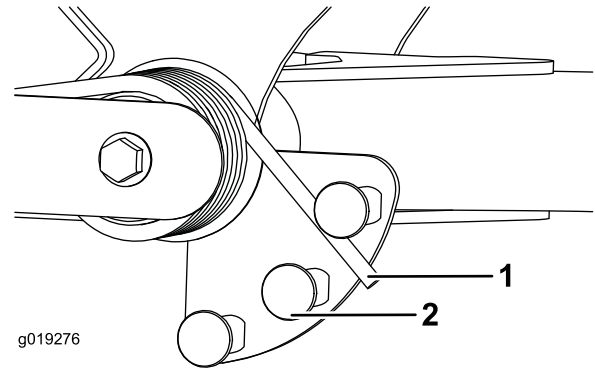

Figure 29
2. Insert a tube or similar object onto the long spring end and pivot it around the spring actuator to the desired position (Figure 29).